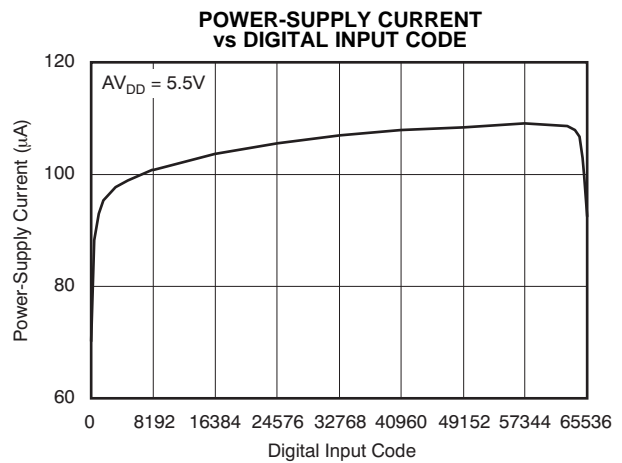

Figure 12.
(6) Specified by design and characterization, not production tested.
(7) For more details, see Figure 12, Figure 53, and .